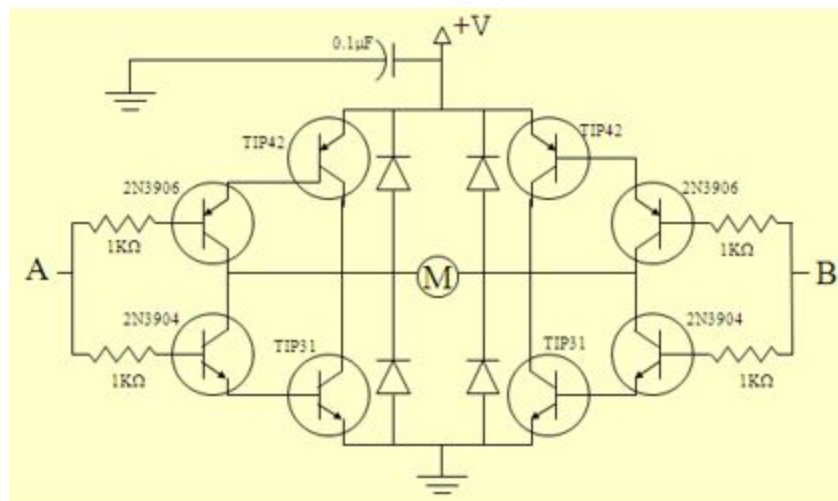

Fig. 2 DC-Motor Control H-Bridges
2) A typical microcontroller can source or sink only about 10-25mA per IO pin. As such, if we were to generate a 5V, 20mA PWM signal from the K60, it would not provide sufficient power to turn our DC motor. To solve this problem, transistors, H-bridges, and motor controllers are used. Each of these amplify the output signal from our IO port to the appropriate voltage and current necessary to drive our motor. For example, we could use NPN and PNP transistors to construct our own H-bridge. In the circuit below (Fig. 2), by having IO A high and IO B low, the motor turns in one direction, and swapping their polarities makes the motor turn in the other direction.